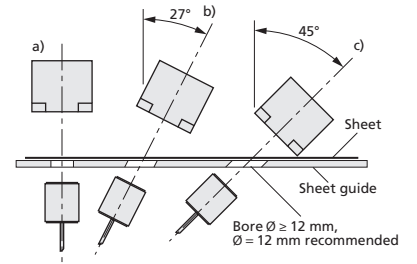

Fig. 3: Installation positions
- If you install the transmitter in a recessed position or position a sheet guide between the transmitter and receiver, the hole must have a minimum diameter of ≥ 12 mm, but we recommend a diameter of 18 mm (Fig. 3).